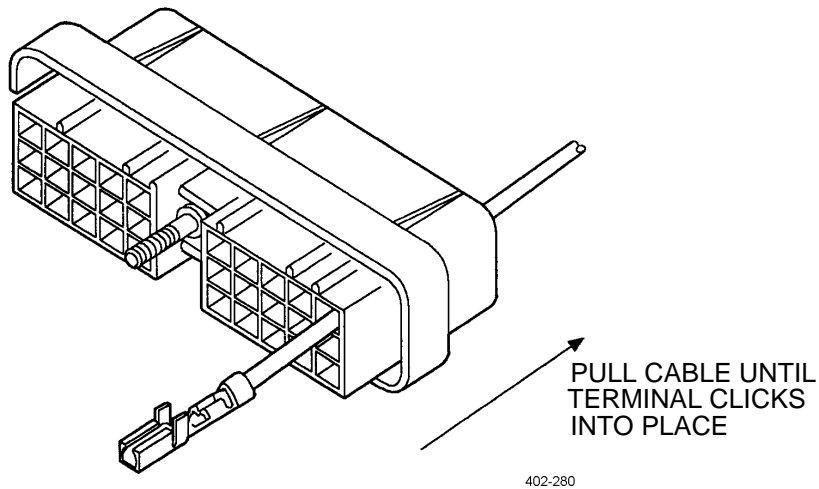

Figure 5. Pulling Terminal to Seat.
- (9) Align locking tang of terminal with lettered side of connector.
(10) Pull cable back through connector until a click is heard (Figure 5). Position seal into connector.